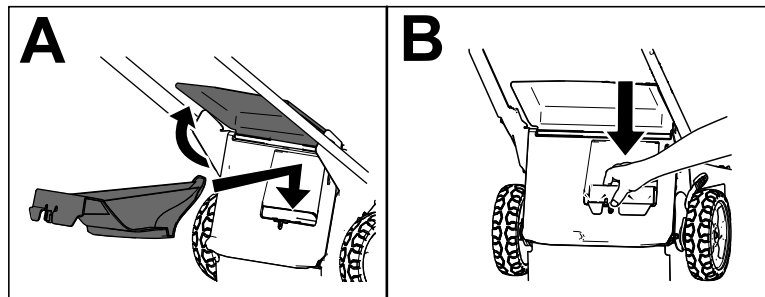

Figure 19
**Important:** Ensure that the rear plug is locked in place. To lock the plug, raise the rear deflector (A of Figure 19), and firmly push the plug down until it snaps into place (B of Figure 19).